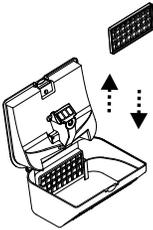

Fig.3
- 01. Open the upper cover of the dustbin, pour out the dirt and other junk (Figs. 3,4, and 5).